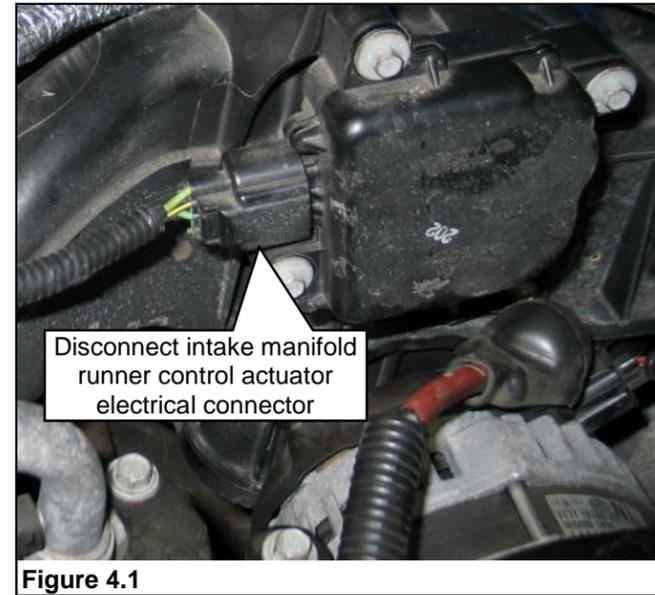

Figure 4.1
1. Disconnect the intake manifold runner control (IMRC) actuator electrical connector as needed. **Figure 4.1.**